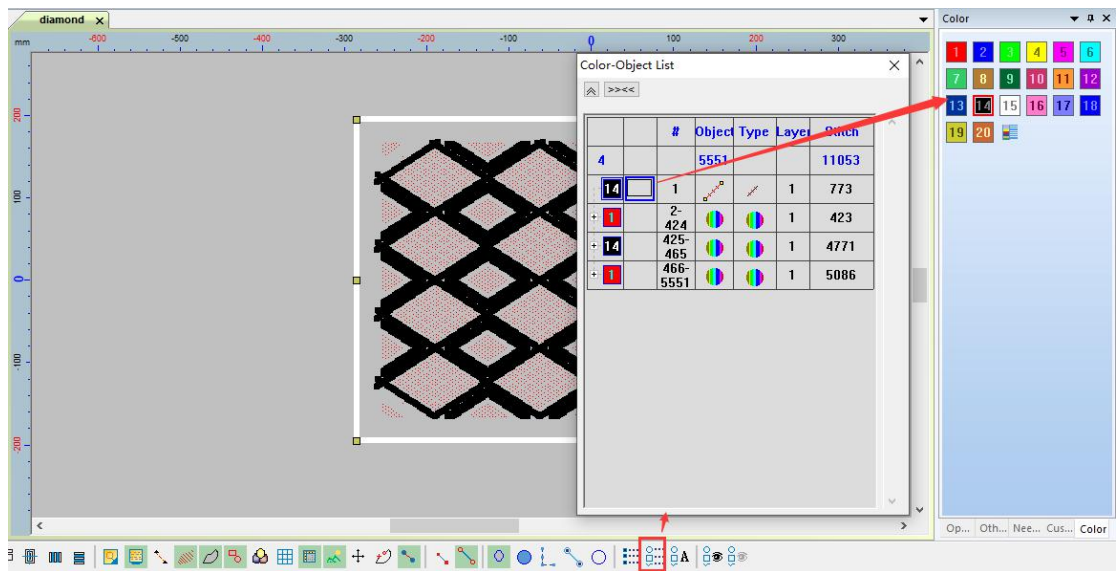

图 1 Picture1
Step 6: After copying all, click the color object list at the bottom of the workspace, select the border in the color object list, click the color toolbar on the right to modify the color (as shown in Figure 1), and select a red color in the color object list. Right-click "Sort by Selected Color (All)" as shown in Figure 2.